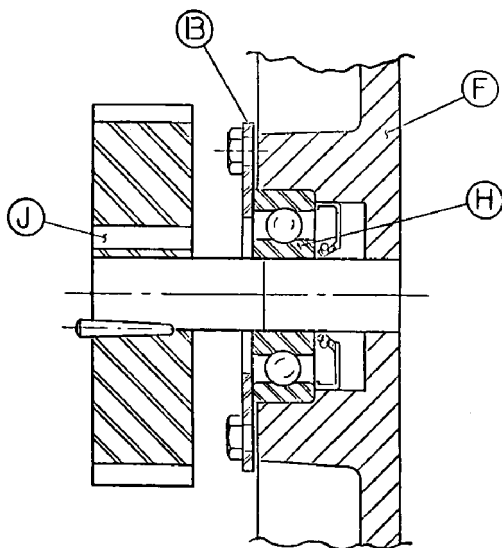

FIGURE 23
Refer to FIGURE 23, page 23. The outer races of the gear end bearings are clamped against the headplate (F) by the bearing retainer (B).